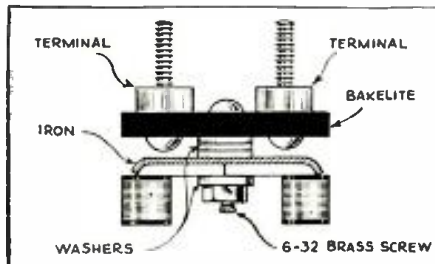

Fig. 3
- One set of search-coil plates (the magnetic collector shown in Fig. 3);